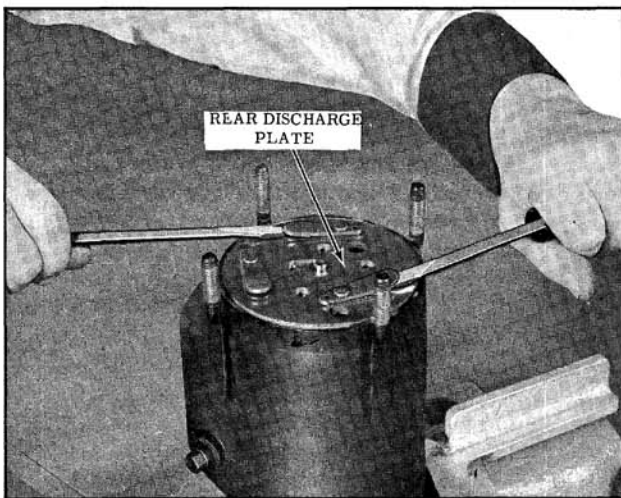

Fig. 14-119 Removing Rear Discharge Plate
7. Remove the rear discharge valve plate and reed valve assembly. Separate the discharge valve plate and reed valve and inspect. (Fig. 14-119)